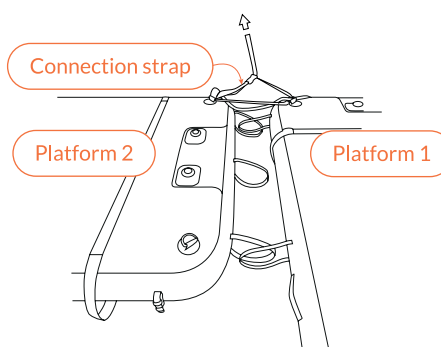

Fig 67 – Loosely feed the connection straps between the Platforms
6. Loosely feed a connection strap provided through the D-rings of both Platforms (Fig 67).